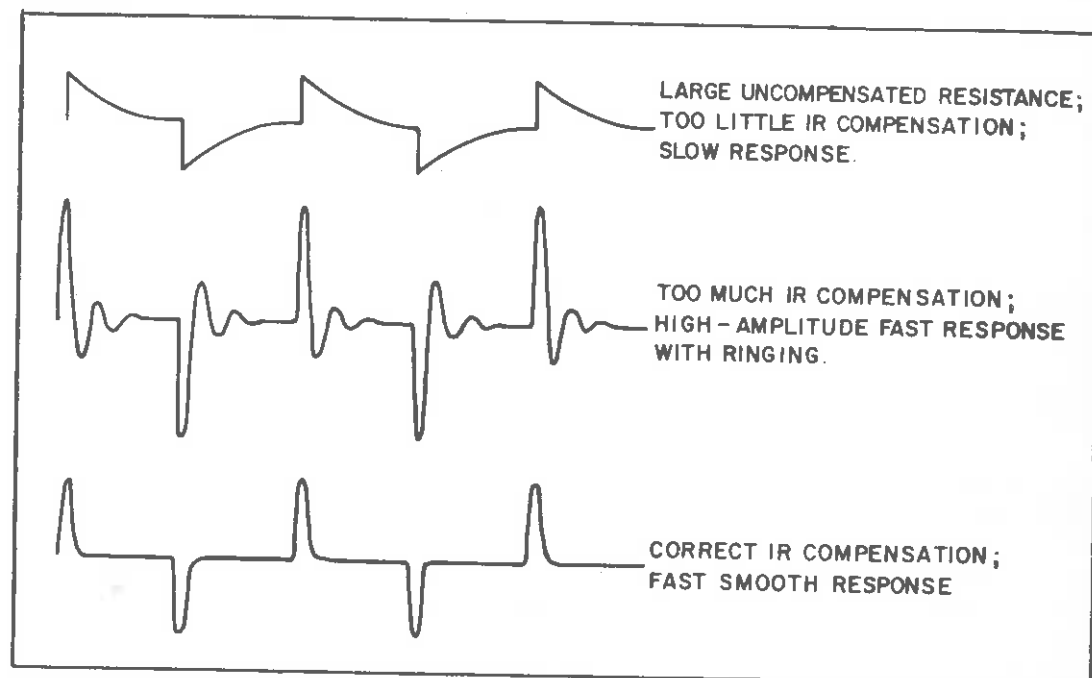

Figure III-1. CURRENT MONITOR WAVEFORMS DURING IR COMPENSATION PROCEDURE
- (1) Prepare the cell in the usual manner. To prevent faradaic current, the potential applied with the INITIAL POTENTIAL control should be well below the half-wave potential of the reaction of interest.
- (2) Set up an external square-wave generator to provide a small (10-50 mV pk-pk) square wave at 1 kHz or lower, and connect the square wave to the front-panel EXT IN connector. Note: many oscilloscopes are equipped with an internal calibrator that provides a square-wave signal at either 1 kHz or 60 Hz. Such a signal can be used to adjust the IR compensation.
- (3) Connect an oscilloscope to the CURRENT MONITOR connector and adjust the oscilloscope to the current vs. time relationship of the electrode response.
- (4) Turn the IR COMPENSATION dial fully clockwise. Turn the IR COMPENSATION switch ON. Then begin rotating the dial clockwise while monitoring the CURRENT MONITOR signal with the oscilloscope.
- (5) Adjust the dial for the smoothest fast-charging of the double-layer capacitance, as shown in Figure III-1. With too little compensation, the response will be slow and of low amplitude. As the compensation is increased, the amplitude of the observed waveform will increase and the charging time will become faster. Too much compensation results in a very high amplitude waveform with fast response and ringing that indicates the system is not well controlled. In many cases, it will even be possible to make the entire system oscillate completely out of control by setting the IR compensation too high. The correct setting is that which gives a response similar to that shown in the lowest curve of Figure III-1, that is, fast, but without ringing. If the IR compensation is too low with the dial fully clockwise, as may be the case in high-resistance solutions, operating with 100% positive feedback is the best you can do.